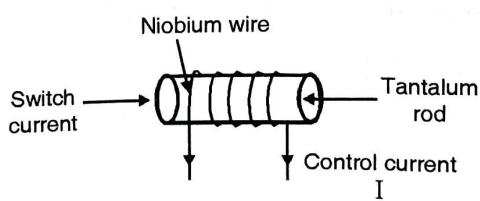

Fig. 5.8.3 : Structure of crytron (fast superconducting switches)
- Here application of magnetic field greater than the H_c can change the state of material from superconductor to normal conductor. This can reverse the process. This principle is used to develop switching element known as **cryotron**. The structure of **cryotron** is as shown in the Fig. 5.8.3.